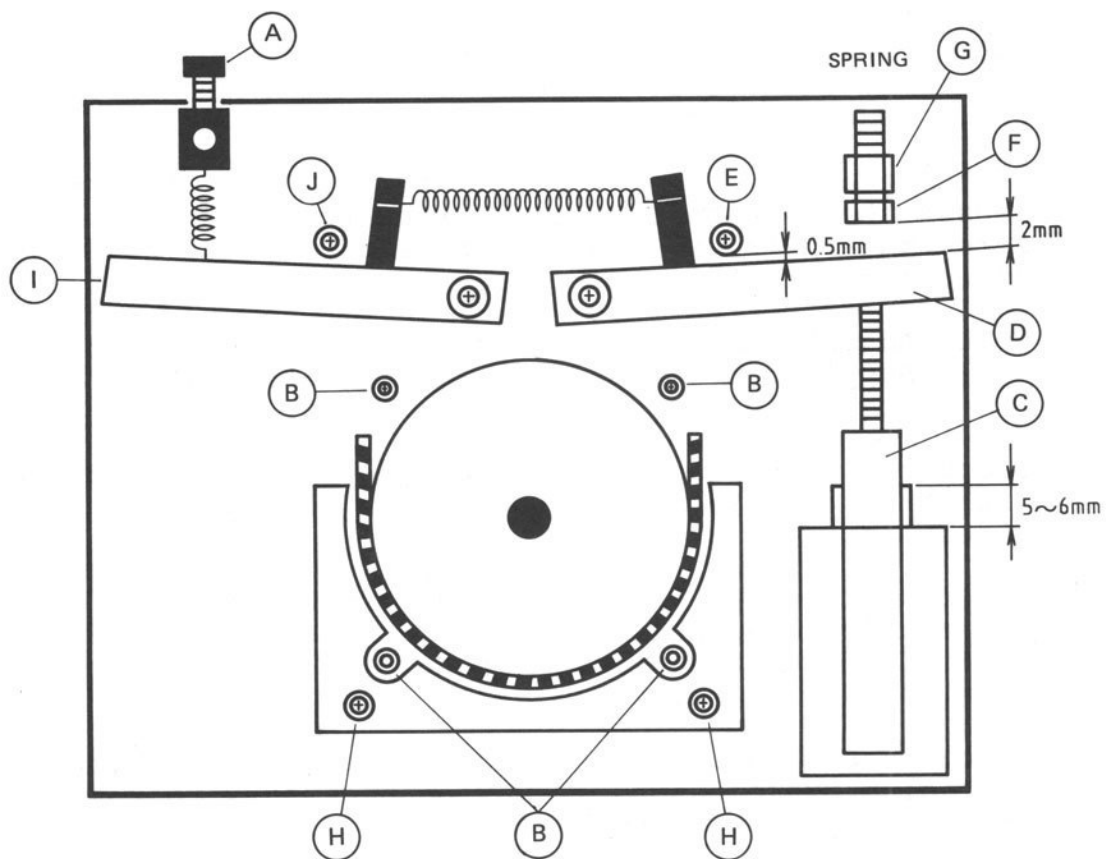

Figure 4-16 Brake Adjustments
- (1) Loosen the screws marked "B" in Figure 4-16 and adjust the Brake Assembly on the motor so that there is 0.5 mm clearance between arm "D" and post "E". Securely tighten the screws.
- (2) Adjust the double-nut "F" so that 5-6 mm of plunger body protrudes from the solenoid body, while pushing in on "G" to remove any slack in the linkage.
- (3) Adjust bracket "C" for 1 mm clearance between the fiber washer "F" and the arm "D" while pulling out on "G" to remove any slack in the linkage.
- (4) Loosen the screws marked "H" and adjust the guide so that the band does not rub on the brake drum when the solenoid is energized (push "G" all the way in to check).
- (5) Check the Holdback tension by winding the free end of a piece of string or twine around an NAB reel hub (clockwise for the Supply reel, counterclockwise for the Take-up reel), and pulling on the string with a spring scale to unwind the string. Since the reading on the spring scale is dependent on the speed at which the string is pulled, it is recommended that two or three readings be made and the results averaged.
- (6) If the tension is not approximately 1200 - 1500 grams, loosen the tension bracket locking screw and adjust the screw marked "A" so that the tension in the "holdback" direction is within that range.